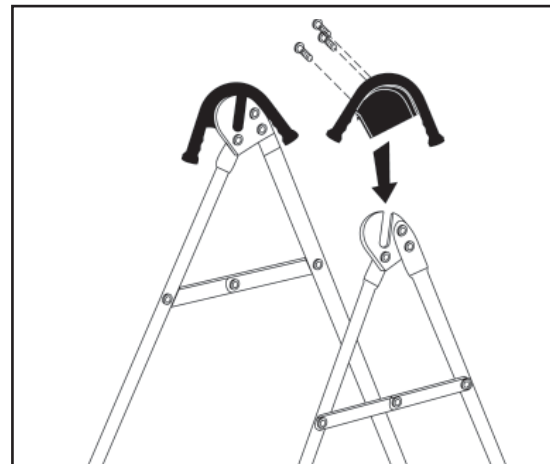

Figure 2
- Place each Hand Grip (left/right) over the outside edge of the corresponding Hinge Plate (Figure 2).